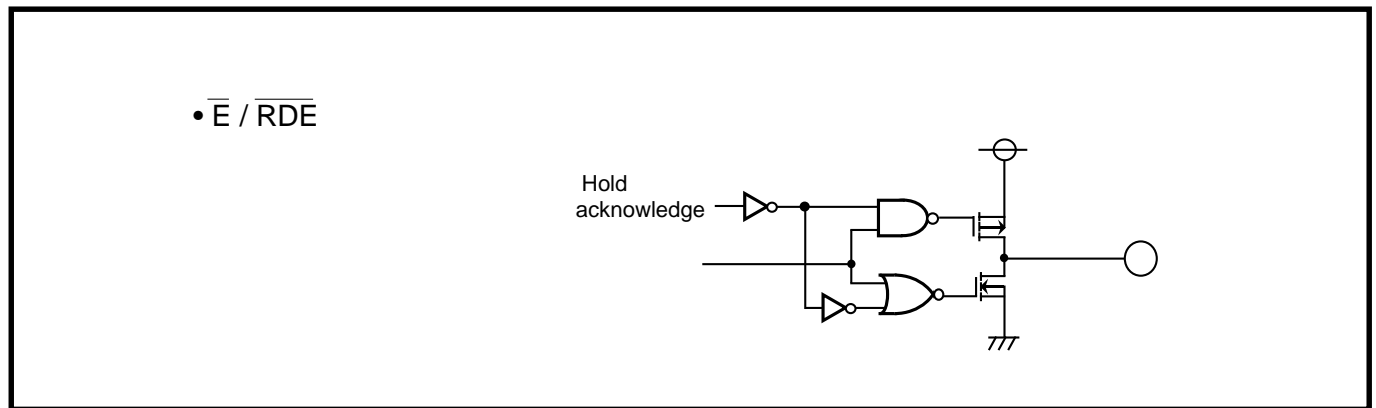

Fig. 3.2.2 Port peripheral circuits (2)
- **Pin $\overline{E}/\overline{RDE}$ in Figure 3.2.2**